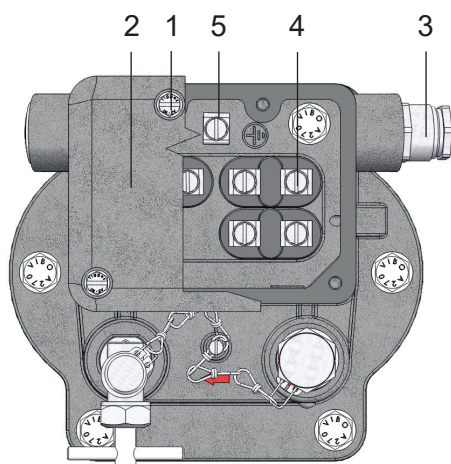

Figure 10 - Electrical connection
- Remove 4 screws M5 (Fig. 10/ No. 1)
- Remove the cap (Fig. 10/ No. 2)
- Insert the lead through the cable gland (Fig. 10/ No. 3)
- Connect the lead to the terminal studs (Fig. 10/ No. 4) (maximum torque 3 Nm)
Connect the protective conductor (green-yellow insulation) to the earth terminal (Fig. 10/No. 5) (maximum torque 3 Nm)